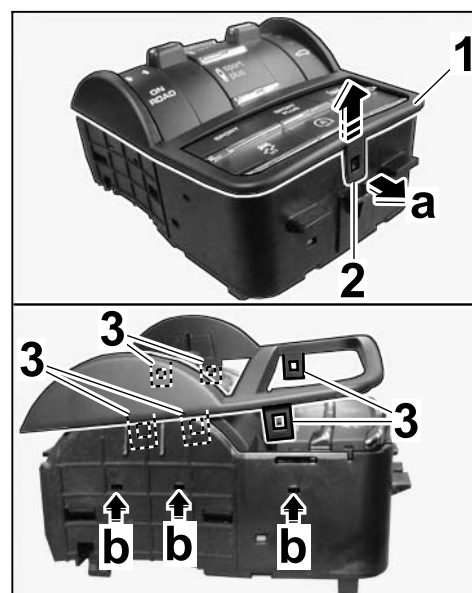

Figure 4
- 2.1 Release locking lug – at the front ( ⇒ *Figure 4 -a-*) and lift the trim slightly ( ⇒ *Figure 4*).
Insert a small screwdriver into the housing ( ⇒ *Figure 4 -b-*) and **carefully** release the clips ( ⇒ *Figure 4*).